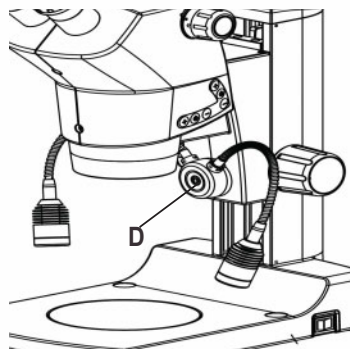

Fig. 4
3. Refix the Goose neck LED assembly on bracket (D) using same 4.0mm Allen wrench. refer fig. 4.